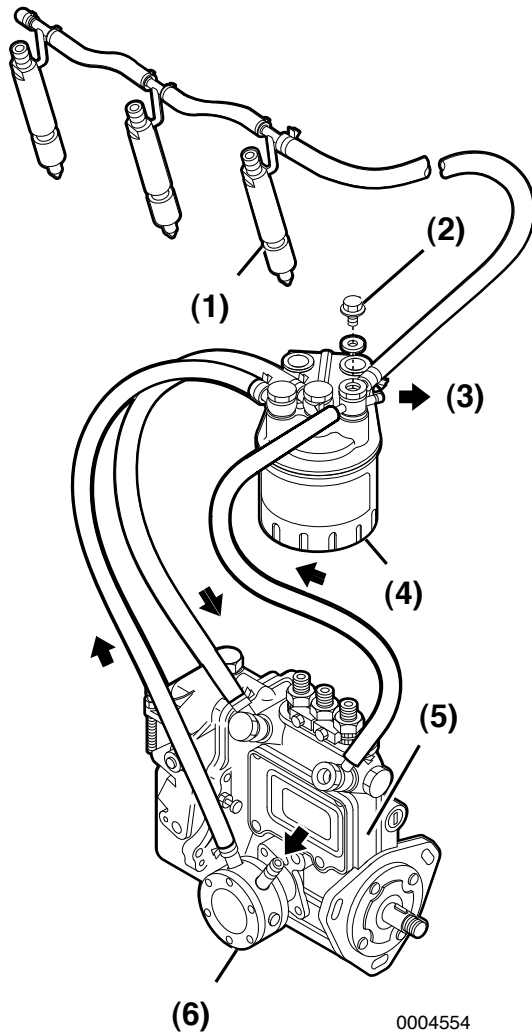

Figure 5
3. Loosen the air bleed screw (**Figure 5, (2)**) 2 - 3 turns.
4. Push up and down on the priming pump (**Figure 5, (1)**) to release air out of the air bleed screw.